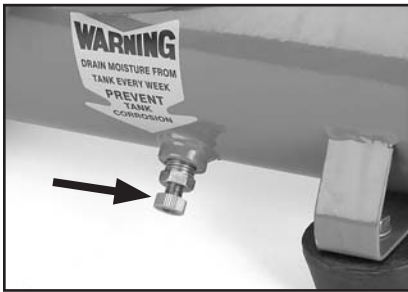

Figure 5. Drain valve.
6. Close the drain valve (**Figure 5**) to allow the tank to build up pressure.